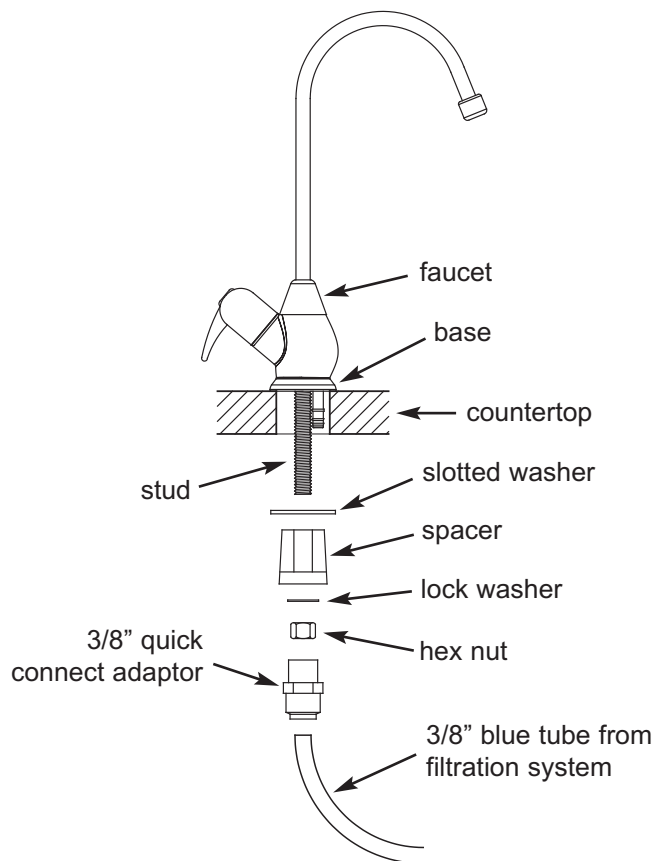

Figure 3
1. Slide the chrome base over the faucet stud so that it will sit below the faucet body (See Fig. 3).